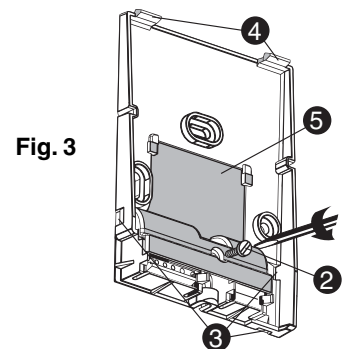

Fig. 3
To do so, loosen the screw ❷ (Fig. 3) and remove the terminal block cover ❸.
If necessary, remove the knockouts ❹ (Fig. 3) to route through the connection cable.
- Replace the terminal cover ❸ and fasten it in place with the screw ❷ (Fig. 3).
- Place the thermostat on its mounting plate. To do so, first insert the tabs ❹ (Fig. 3) then push down on the thermostat until it snaps into place.